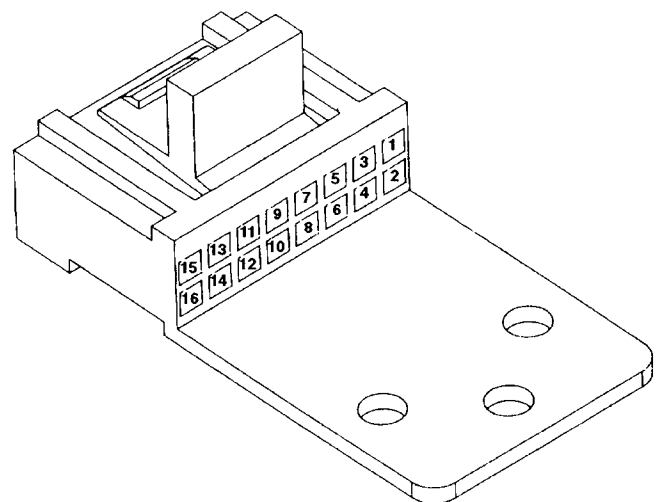

Figure 1. Accessory Connector, Rear View
The following is a description of the pin functions on the Expanded Accessory Connector for the 8- and 16-channel radios. Refer to Figure 1. for pin locations in the connector housing.
2. Insert the terminal into the desired housing location, with its locking tab facing down toward the strain relief tab. Refer to Figure 1. for pin locations.